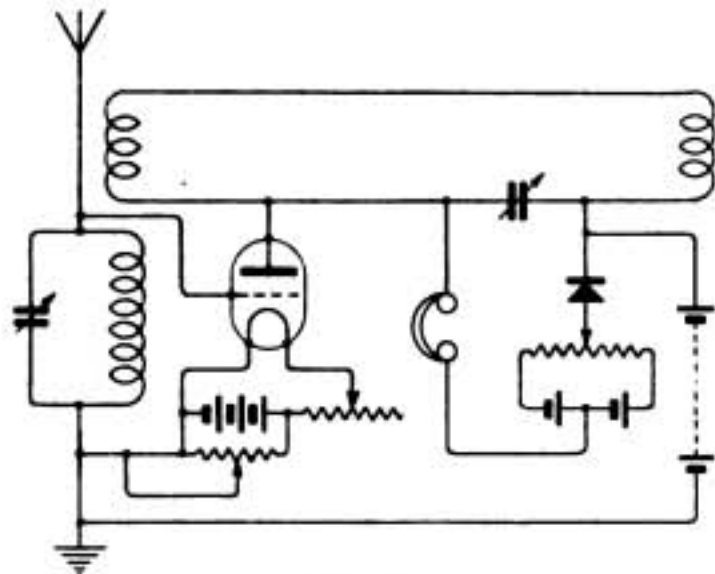

Fig. 3.
(1) See diagram Fig. 3. (2) Slab coils could
See Fig. 3, page 340, issue June 10th. In order to cover such a large range of wavelengths it will, however, be necessary to use a series of H.F.